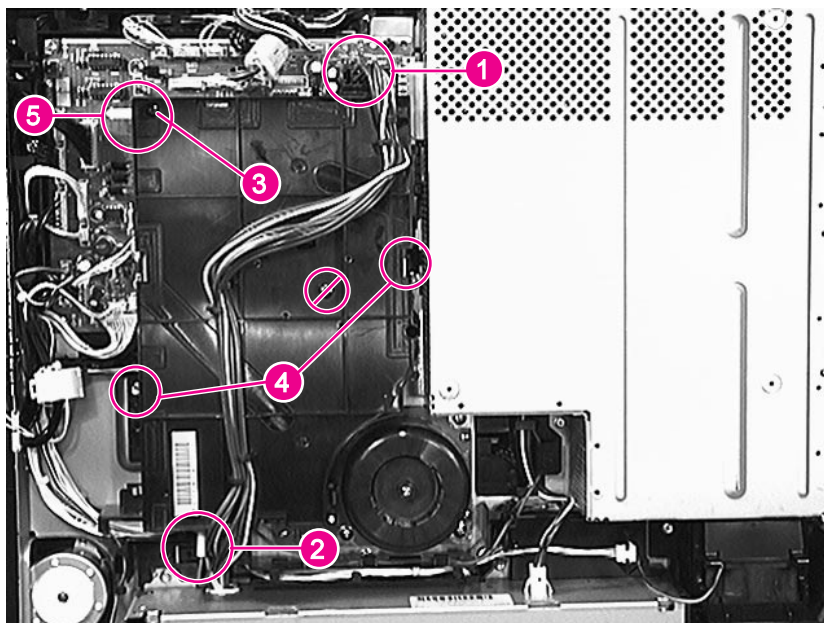

Figure 6-51 High Voltage Power Supply
- 2 Remove the HVPS (see figure 6-51 on page 269).
- 3 Remove the High Voltage Power Supply (see figure 6-51 on page 269).
- High Voltage Power Supply (HVPS) (see figure 6-51 on page 269)
- 2 Unplug the cable from the LVPS to the DC Controller PCA (figure 6-51, callout 1), and move it out of the way.
- 3 Unplug the connector from the bottom of the HVPS (figure 6-51, callout 2).
Do NOT remove the screw indicated in Figure 6-51, beneath the null symbol.
- 4 Remove 1 self-tapping screw (figure 6-51, callout 3) and 2 screws (figure 6-51, callout 4).
Make sure that the plastic alignment pin (figure 6-51, callout 5), the connector pins, and the high voltage contacts are properly aligned before replacing the screws.